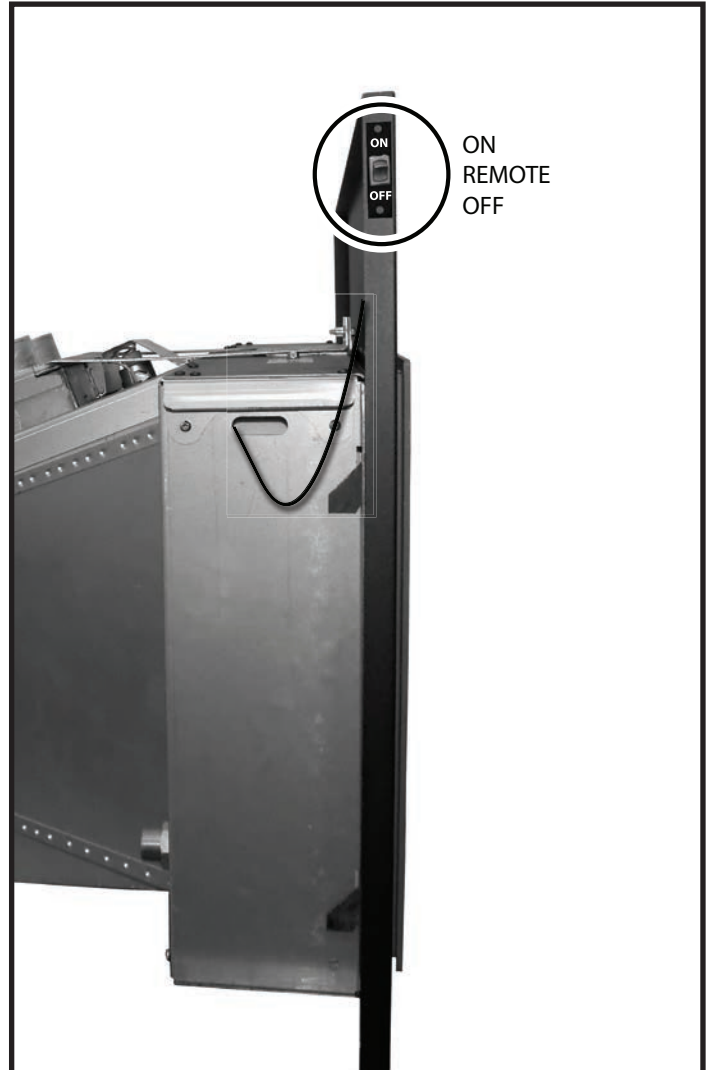

Figure 77: On Off switch for SIT units.
2. With the surround backing plate positioned in front of the fireplace, position the switch in behind the open slot in the backing plate and screw into place (Figure 77).